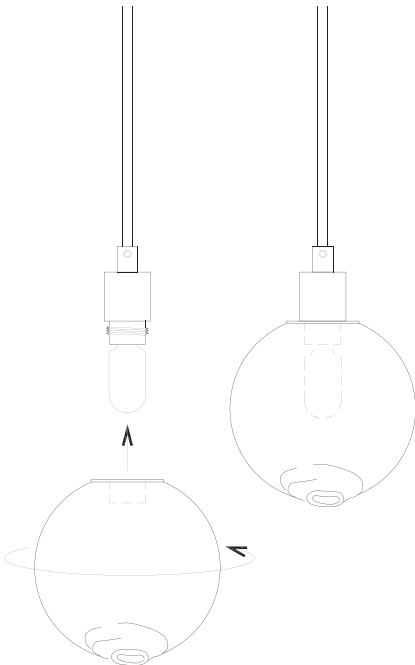

Figure 8. Install glass spheres by threading onto brass sockets
- 12 Unwrap the protective packaging from each of the 28 individual pendants. Install a light bulb in each socket (provided - 7W Max). Unwrap and lay out the 18 individual glass shades. Carefully thread a glass shade onto each socket (Figure 8). Thread the glass on just until they are visually tight - do not overtighten.